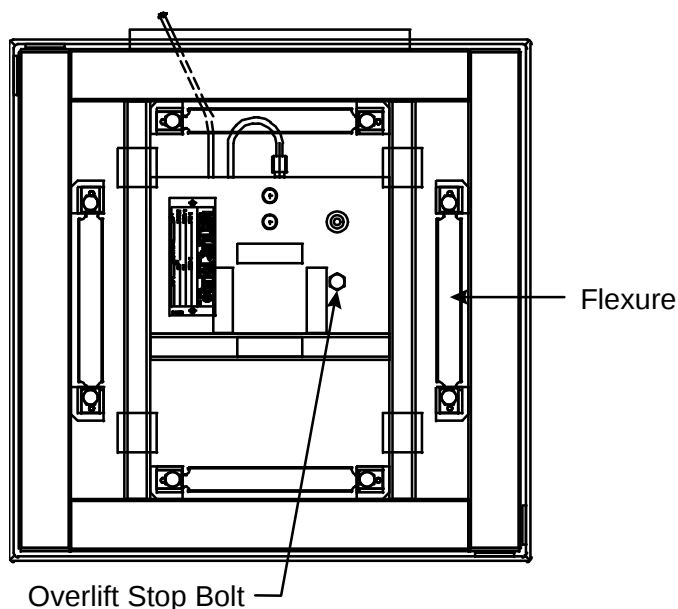

Figure 4-2: Top View of Scale Base
2. Remove the overlift stop bolt (see Figure 4-2). The bolt limits how far you can separate the two sections of the base.